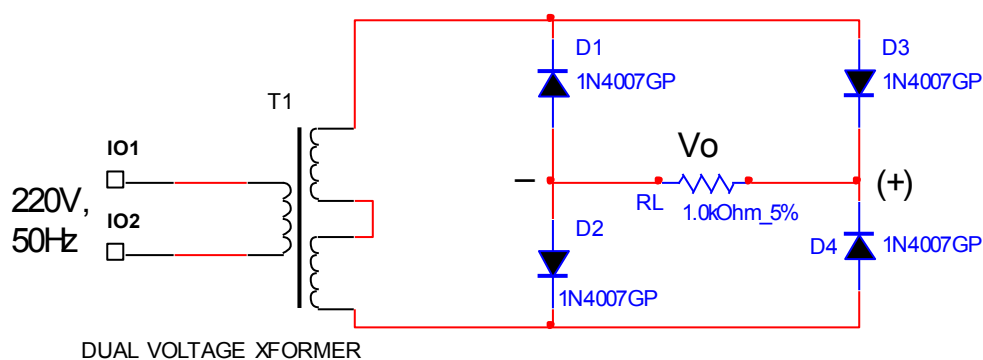

Fig3.2 Full wave Bridge Rectifier
15. Connect the circuit in Fig 3.2